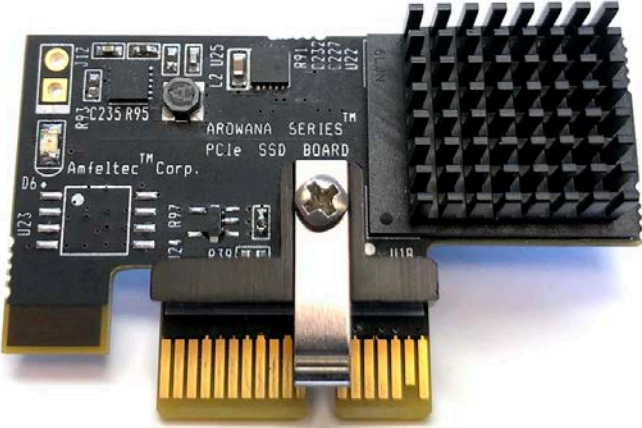

Figure 1: 1U PCI Express SSD board with x1 upstream PCIe interface
- Version with x1 PCI Express upstream connection (SKU-090-31-x1) (Figure 1)
- Version with x4 PCI Express upstream connection (SKU-090-31-x4) (Figure 1)